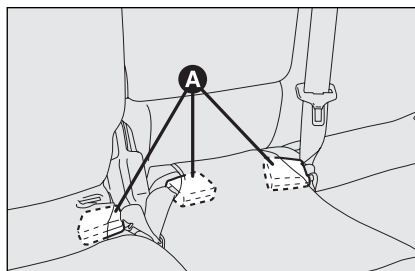

fig. 99
- ☐ for versions with rear sliding seat, fit seat belt buckles into the proper seats **A**-fig. 99;